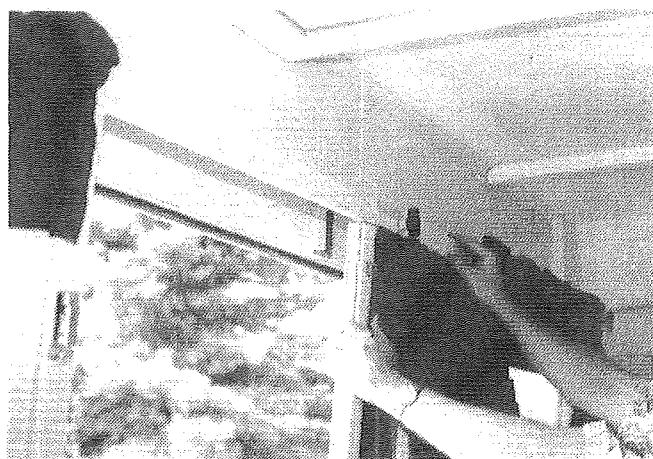
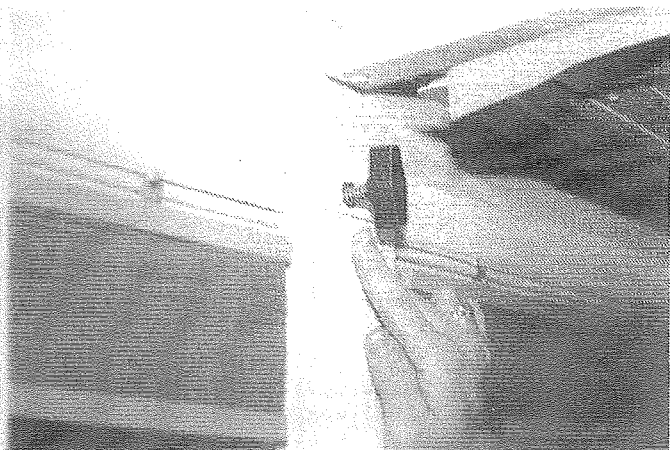

FIGURE 19
FIGURE 20
1. With both front and rear beds fully extended and set-up, enter the trailer. Raise the door side hard wall into full upright position against the side of the top assembly. See Figure 19. While holding the wall into position, rotate the center retaining knob 90 degrees to secure the wall section into place. See Figures 20 and 21. Once center retainer is locked into position, locate and lock the remaining retainers into position. Repeat procedure for the opposite or off-door side wall.